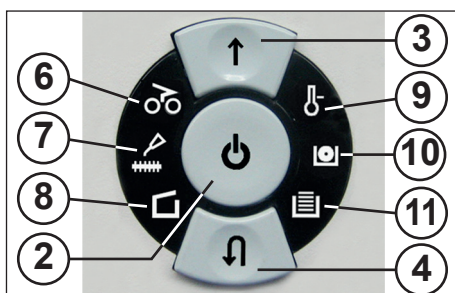

Fig. 1
- 2 = Function buttons (Fig. 1)**
- 3 = Forwards button (Fig. 1)**
- 4 = Reverse button (Fig. 1)**
- 6 = Control display (Fig. 1)**
- 7 = Control display (Fig. 1)**
8 = Control display (Fig. 1)
9 = Control display (Fig. 1)
“CD/DVD container full” (Fig. 1)
“Paper collection container / bag full” (Fig. 1)